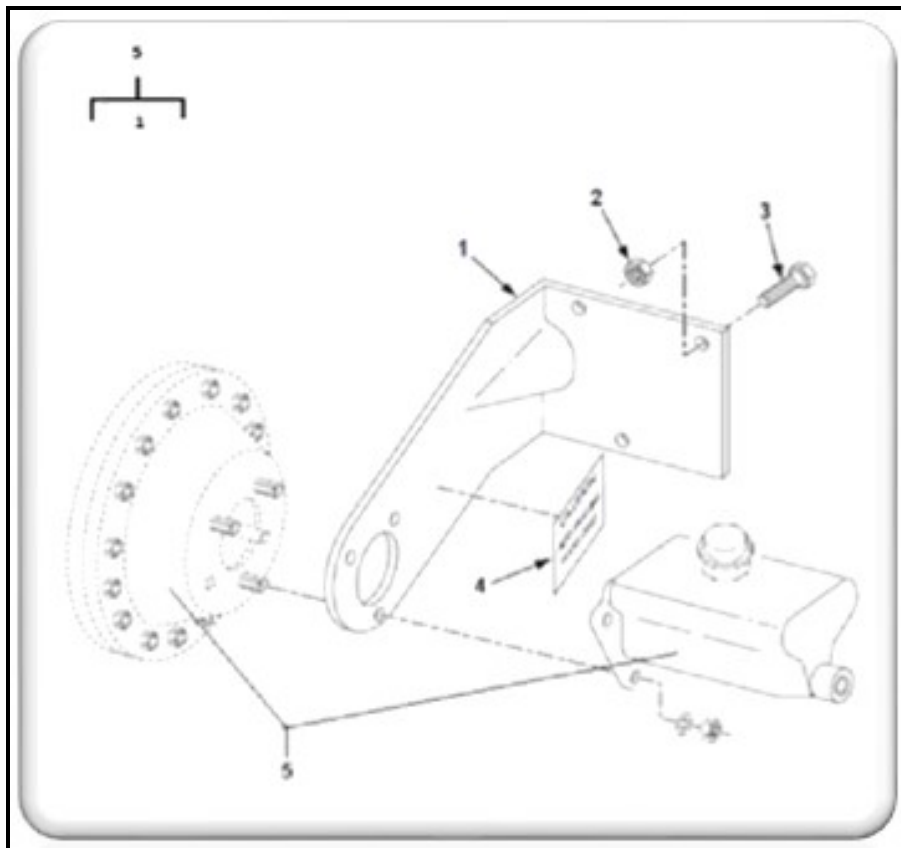

Fig 7 - Master Cylinder and Bracket (Added new style cap and master cylinder/air chamber assembly option)
There are four (4) updates to the TM that you'll need before you perform any brake work or order parts shown in Figs 7, 10, 11 and 21. The last update included below is for the water tank.
The TM update to Fig 7, Master Cylinder and Bracket, shows the new style cap and the master cylinder/air chamber assembly option.